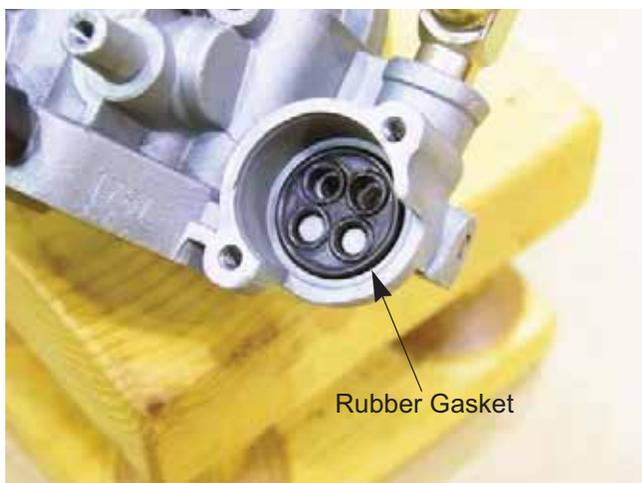

Figure 4.40
7. Remove the rubber gasket. See Figure 4.40.